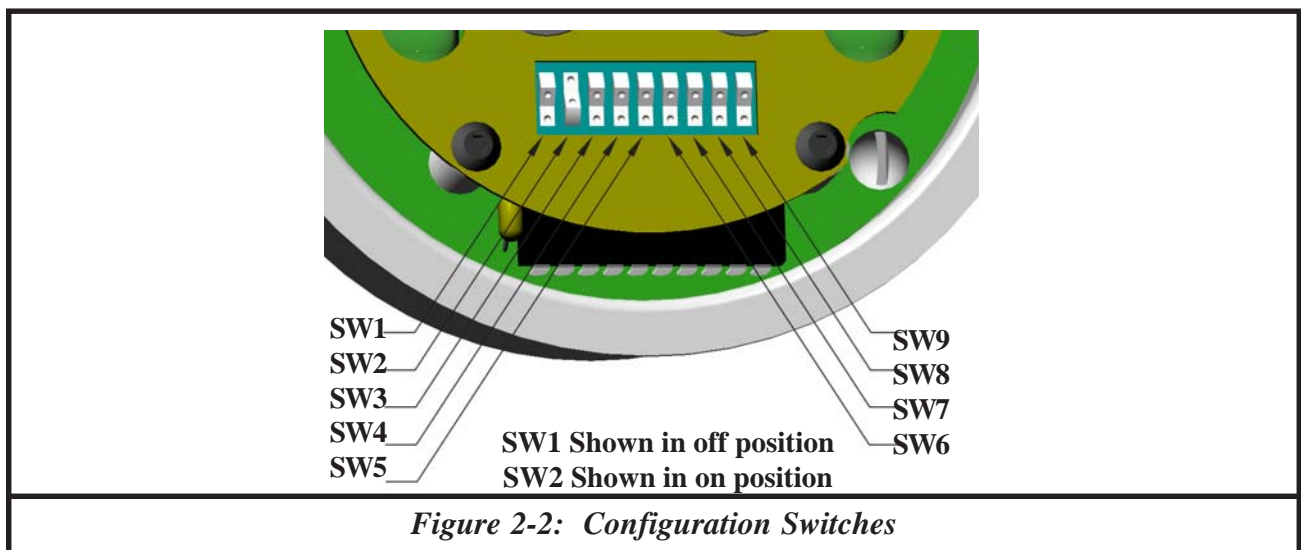

Figure 2-2: Configuration Switches
2.5 Configuration (See Figure 2-2)